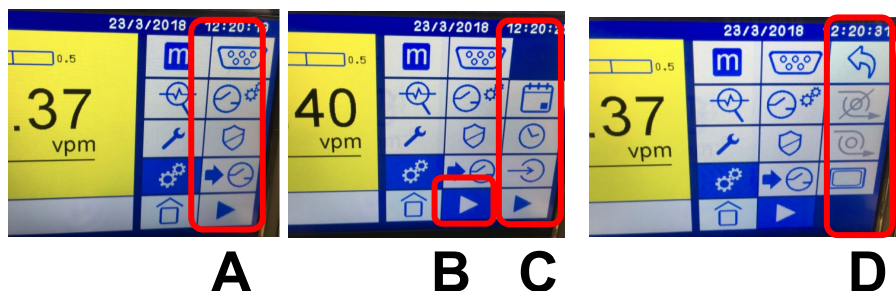

Figure 5-4: The User Interface Menu screen with the Settings branch activated
Figure 5-4 shows a Step Series of Screens that are launched when the Settings Main Menu icon  is touched:
- The first series of functional icons that belong to the Settings section are displayed in the column of icons to the right of the Main Menu icons (Figure 5-4 A).
- To display the next set of functions touch  which brings up the second set of Setting functions (Figure 5-4 C) to the right of the first set (Figure 5-4 A). Note that  is activated as the background color is now blue (Figure 5-4 B).
- To get the third and final set of functions touch  at the bottom of the list of the last column (Figure 5-4 C) and the third set of icons will replace the second set in the final column position (Figure 5-4 D).
- To return the second set of features touch the Return icon  at the top of the last column and the middle screen in Figure 5-4 will be returned.